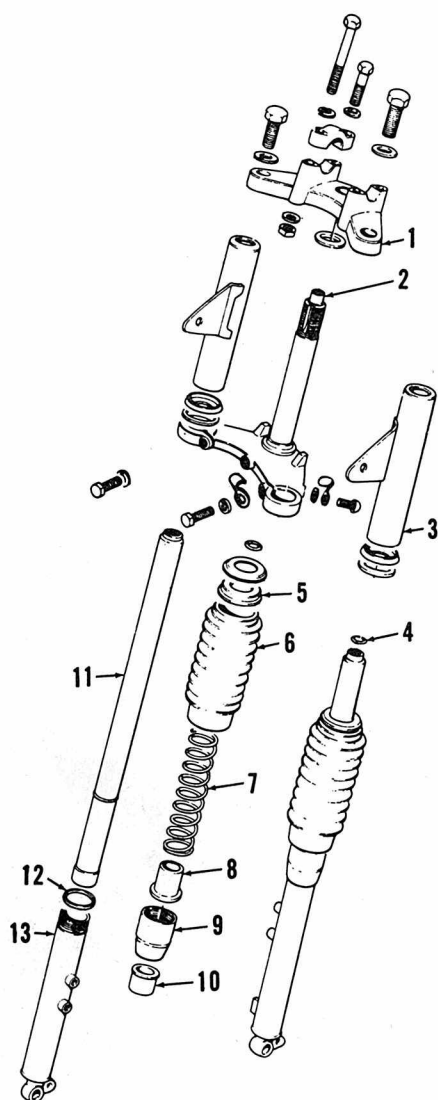

Fig. S11-5—Front suspension system used on T 125 II and T 125 R models. Other units are similar.
**SUSPENSION.** Front suspension units on all models should be serviced with 130cc of SAE 30 motor oil. Forks may be disassembled by clamping the outer tube nut (9—Fig. S11-5) in a vise and turning outer tube (13).